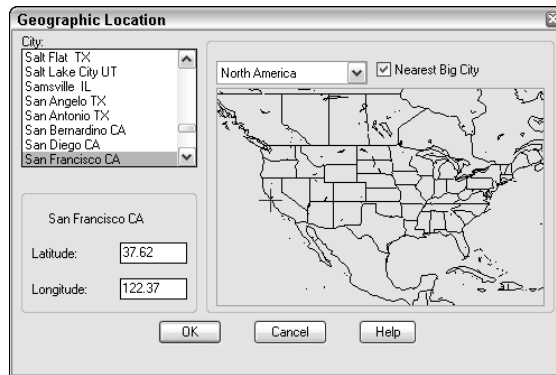

Figure 25-10: Use the Geographic Location dialog box to determine latitude and longitude for specific locations.
6. If you don't know the latitude and/or longitude, click Geographic Location to open the Geographic Location dialog box, shown in Figure 25-10.